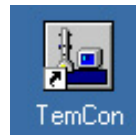
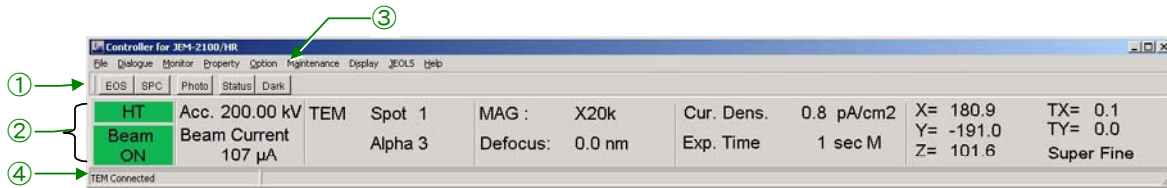

Fig. 4.12 TEM Controller icon
Fig. 4.13 TEM Controller window
- ◆ Double-click on the TEM Controller icon (Fig. 4.12) in the PC monitor screen (Fig. 3.6) to start the TEM controller program. The TEM Controller window appears (Fig. 4.13).